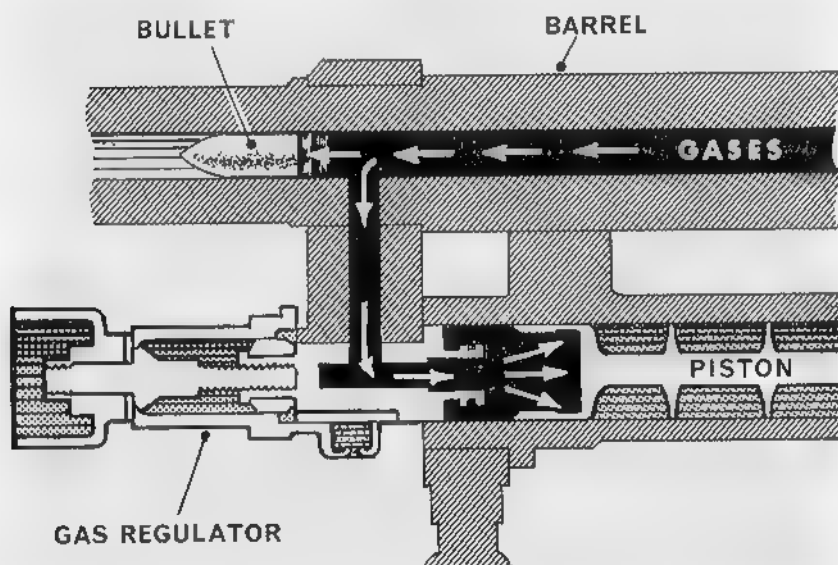

Fig. 37.—The path of the gas
- a. When the round is fired, some of the gasses pass through the gas vent into the gas cylinder, strike the head of the piston and drive it to the rear as previously taught. (see Fig. 37.)